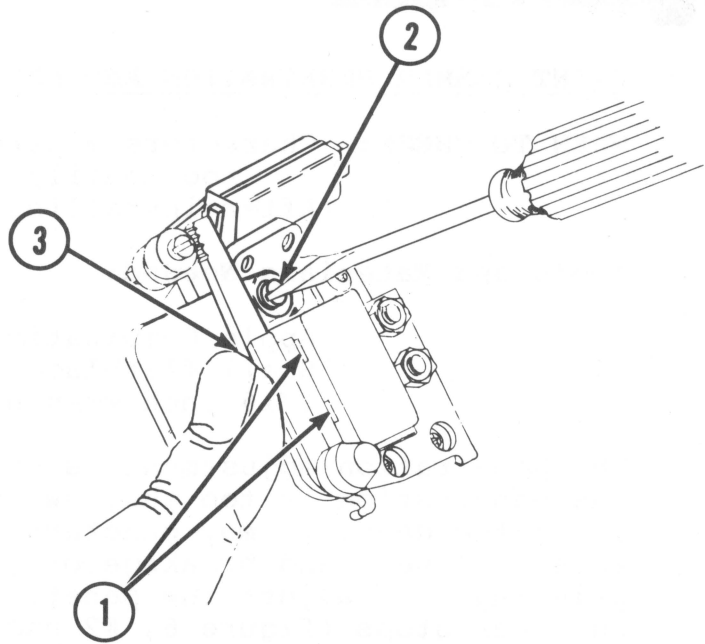

FIGURE 9
1. Loosen the front stop (Figure 9, #2) with a 3/16 inch wrench on the nut and a flatblade screwdriver in the eccentric screw.
2. Push the hammer armature (Figure 9, #3) against the coil pole pieces (Figure 9, #1).